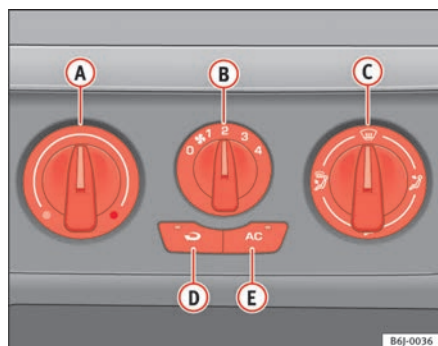

Fig. 88 On the dash panel there are the heating controls
- Turn the temperature selector ⇒ **fig. 88 A** anti-clockwise.
- Turn the temperature selector ⇒ **fig. 88 A** clockwise to select the desired temperature.
- Turn the temperature selector ⇒ **fig. 88 A** clockwise to reach the maximum temperature.
- Turn the temperature selector ⇒ **fig. 88 A** to the heating zone.
- Close outlets ③
- Open and turn outlets ④ towards side windows